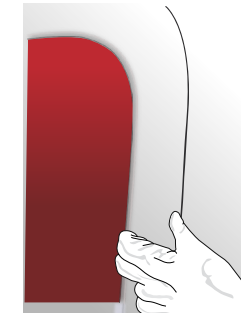

Figure 15
- › Remove the excess upper film as well as the TIRODECO or the WRAPKNIFE protective film. Then firmly press on the film edge with your finger or a felt-covered plastic squeegee. (FIG. 15)